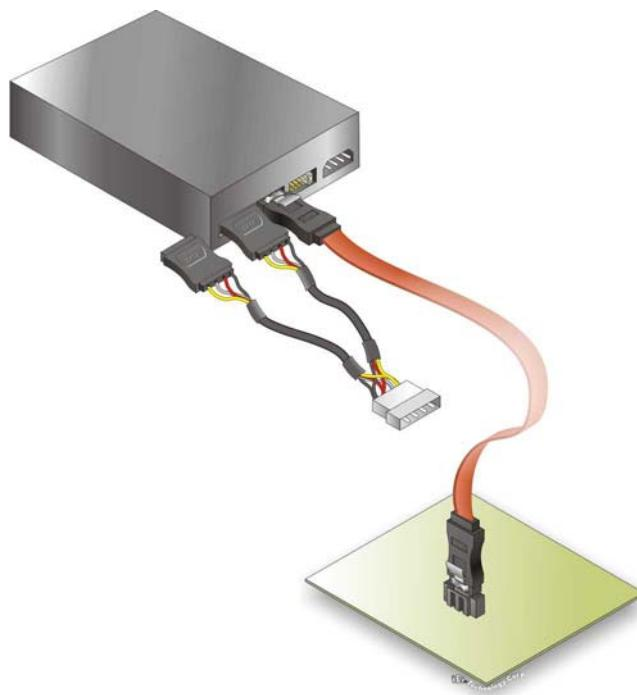

Figure 4-10: SATA Power Drive Connection
- Step 3: Connect the cable to the SATA disk.** Connect the connector on the other end of the cable to the connector at the back of the SATA drive. See **Figure 4-10**.
- Step 4: Connect the SATA power cable.** Connect the SATA power connector to the back of the SATA drive. See **Figure 4-10**.